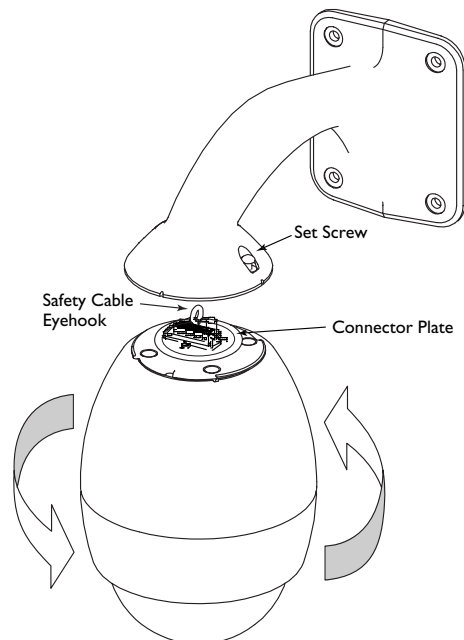

Figure 4: Attaching the Dome
4. Twist 90 degrees in the direction shown in FIGURE 4.
2. Tilt (Y) Adjustment:
- c. Be sure that the camera alignment is correct. The alignment indicator should be pointing in an upward direction (see FIGURE 4).
4. Diagonal (Z) Adjustment: